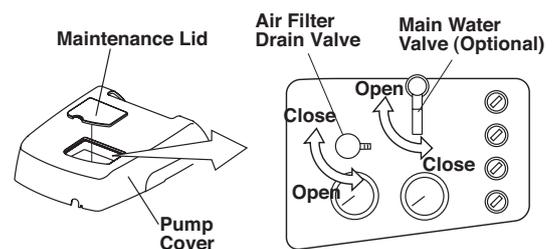

Fig.5-9 Air Filter Drain Valve and Main Water Valve
(5) Air Filter Drain Valve (Fig.5-9)
(6) Main Water Valve (Optional)(Fig.5-9)